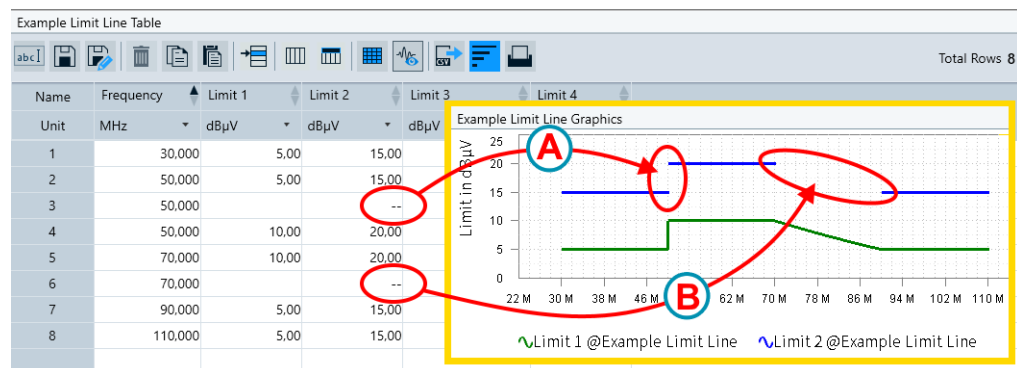

Figure 4-47: Examples of entries in a limit line table, and resulting graphics
- For a "vertical gap" (labeled (A) in Figure 4-47), use the same frequency as in the 1st row
- For a "horizontal gap" (labeled (B) in Figure 4-47), use any frequency between the 1st row and the 3rd row